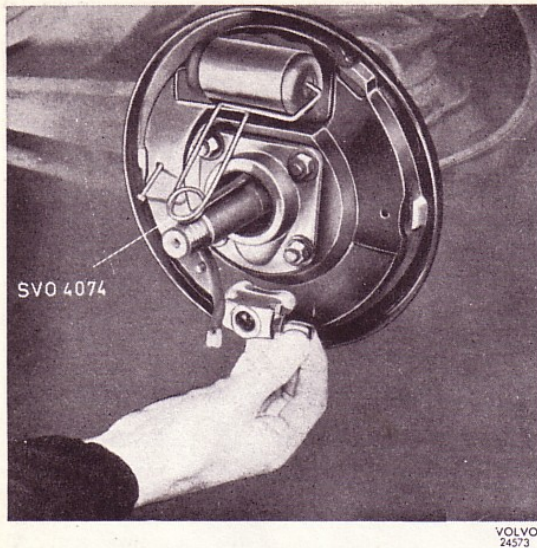

Fig. 23. Removing the adjusting plunger.
5. Screw in the adjusting screw slightly. Remove the adjusting plunger, see Fig. 23.